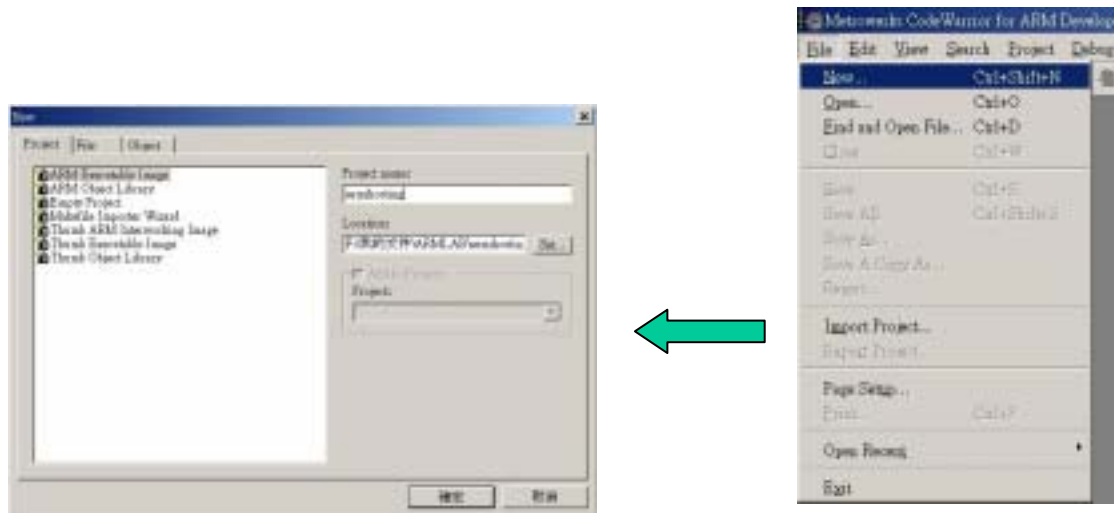

Figure 3 New dialog box
2. Select **File** → **New** to create a new project (Figure 3).
- (1) Select **ARM Executable Image** under the Project tab.
- (2) Type the project name, Semihosting for example.
- (3) Specify the project path. You can see the result in Figure 3.